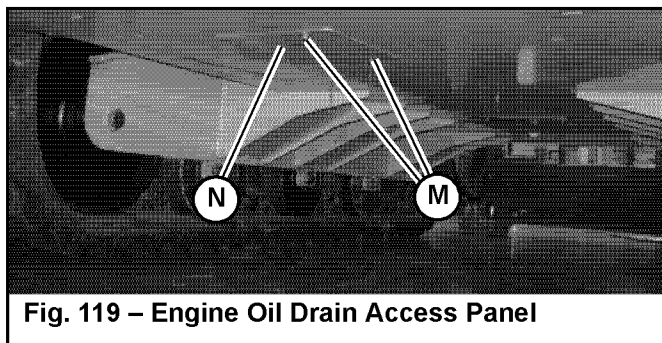

Fig. 119 – Engine Oil Drain Access Panel
14. Replace engine drain plug access panel (N, Fig. 119). Secure with hardware (M).